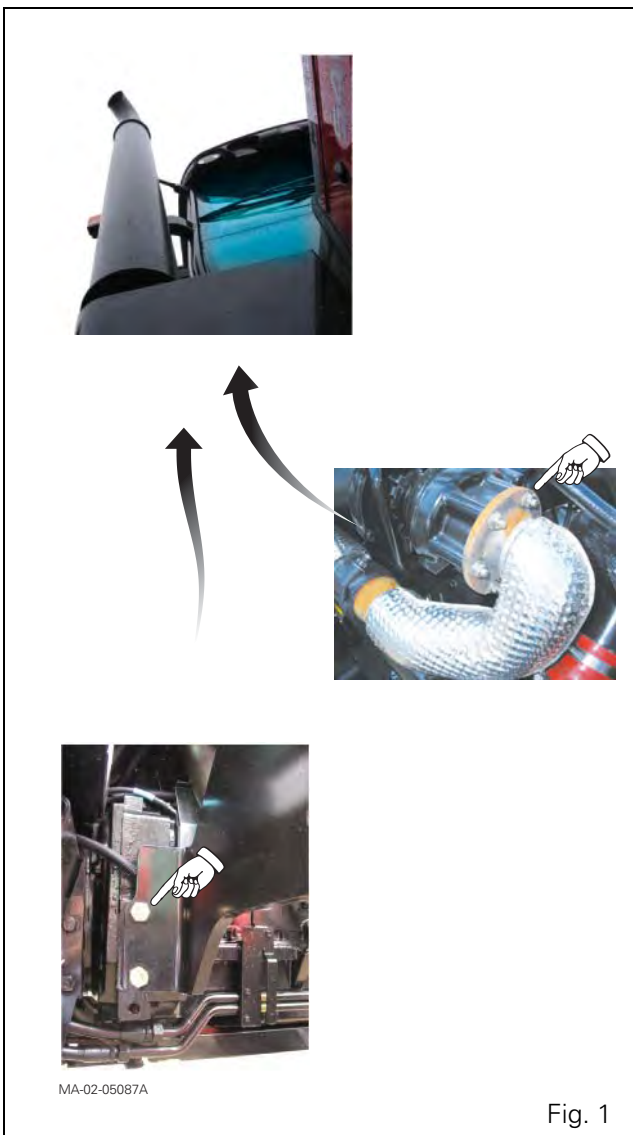

Fig. 1
6. Remove the vertical exhaust assembly (including support Fig. 1).